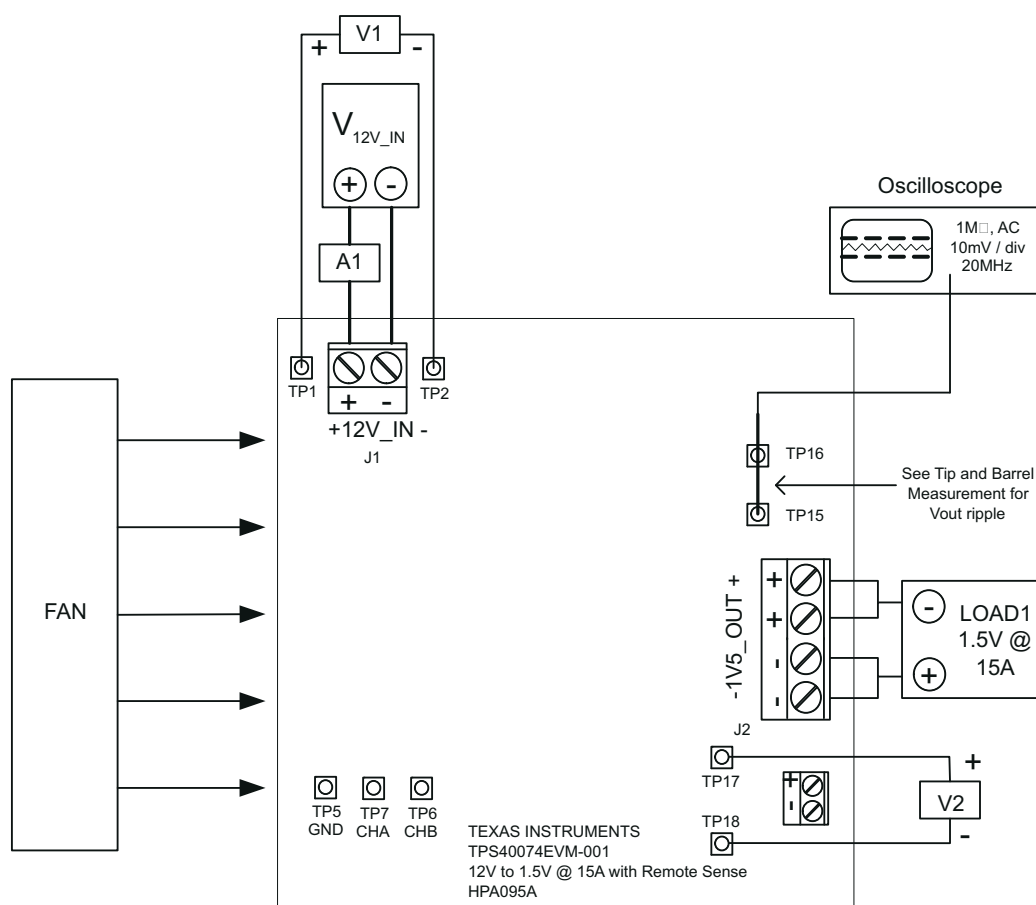
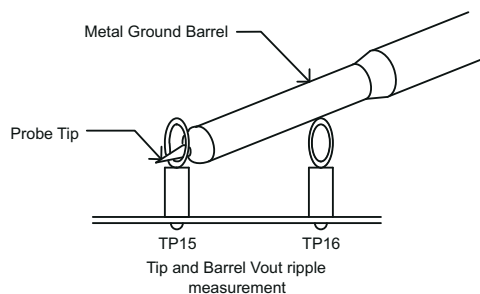

Figure 4-1. TPS40074EVM-001 Recommended Test Setup
Figure 4-2. Output Ripple Measurement – Tip and Barrel using TP15 and TP16
The input voltage source (V_{12V_IN}) should be a 0-V to 15-V variable DC source capable of 5 A_{DC}. Connect V_{12V_IN} to J1 as shown in Figure 4-2.
TP15 and TP16 can be used to measure the output ripple voltage by placing the oscilloscope probe tip through TP15 and holding the ground barrel to TP16 as shown in Figure 4-2. For a hands-free approach, the loop in TP16 can be cut and opened to cradle the probe barrel. Using a leaded ground connection can induce additional noise due to the large ground loop area.
Figure 4-2 shows the basic recommended test setup to evaluate the TPS40074EVM-001. Note that although the return for J1 and J2 are the same, the connections should remain separate as shown in Figure 4-1.
3. Connect the ammeter A1 (0-A to 5-A range) between V_{12V_IN} and J1 as shown in Figure 4-1.
4. Connect voltmeter V1 to TP1 and TP2 as shown in Figure 4-1.
6. Connect voltmeter, V2 across TP17 and TP18 as shown in Figure 4-1.
7. Connect an oscilloscope probe to TP16 and TP15 as shown in Figure 4-2.
8. Place a fan as shown in Figure 4-1. Turn it on, making sure air is flowing across the EVM.
Table 7-1 lists the EVM components as configured according to the schematic shown in Figure 3-1 and Figure 4-1.